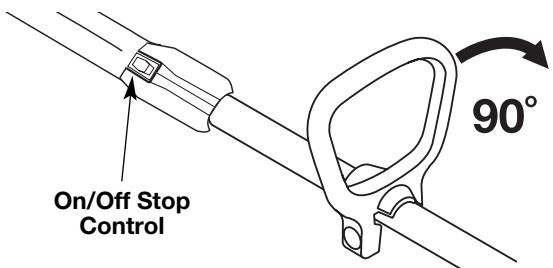

Fig. 12
- Rotate the D-handle 90° to the right (when facing the unit away from the engine). Refer to Figure 12.